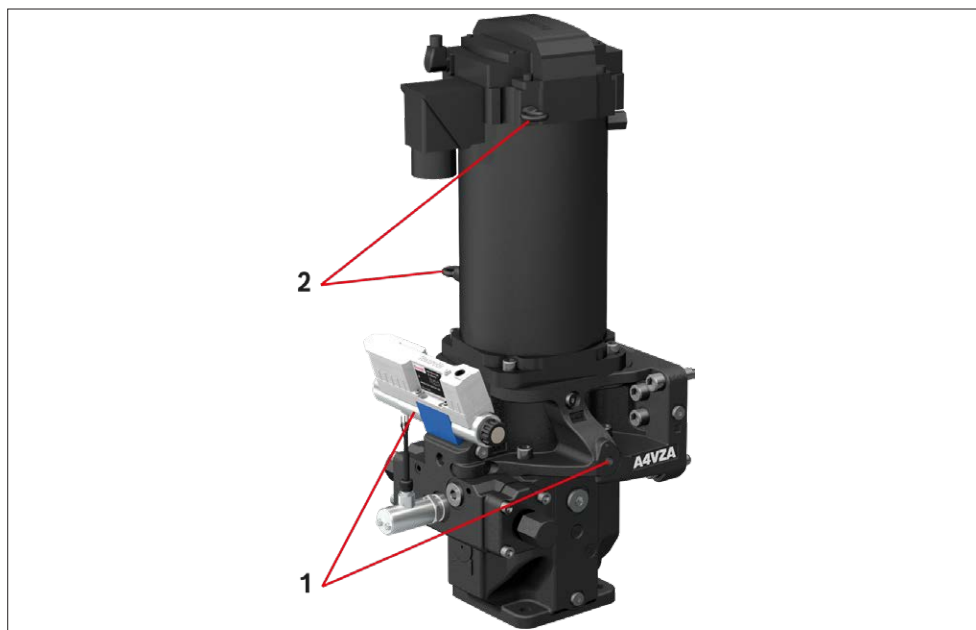

Fig. 5: Transport using lifting gear
- 1.** Screw 2 attachment devices M16, e.g. lifting eyes, according to DIN 580 completely into the screw-in holes of the pump housing, see Fig. 5, pos. 1.
- 3.** Use the lifting eyes on the synchronous servo motor MS2N, see Fig. 5, pos. 2, or lifting straps to support and secure the alignment of the position.